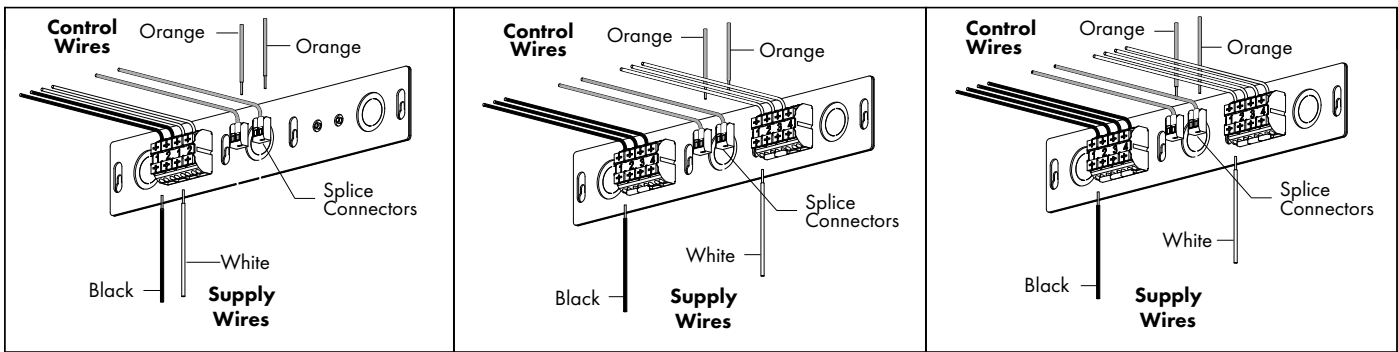

FIG 8.2 Attach Supply & Control Wires
2. Make wire connections noting individual lamp circuit numbers – FIG 8.2.